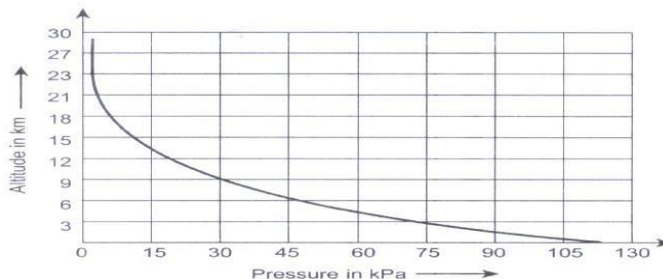

Fig.4.1. Pressure variation in the atmosphere
- **Pressure variation with altitude:** The atmospheric pressure decreases with the increase in altitude, as shown in Fig.4.1. From Fig.4.1, it may be noted that the pressure varies linearly upto an altitude of 6 km and after that the pressure drops about 11 kPa per km change in altitude.